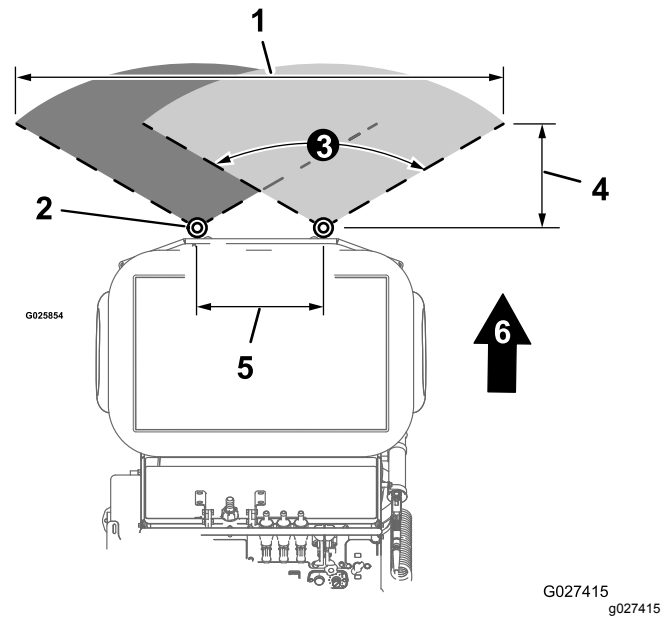

Figure 37
- The wide-spray pattern (Figure 37) on this machine is **274 cm (108 inches)** wide.